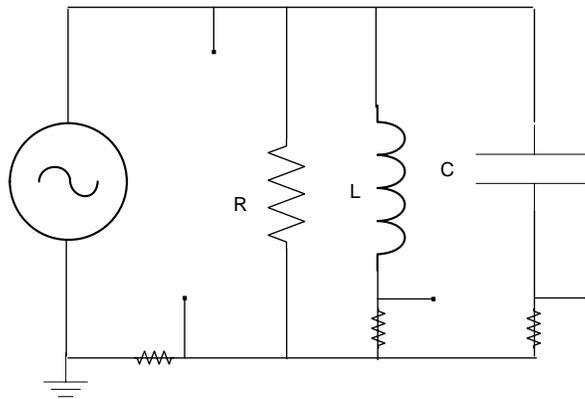

Fig. 3. The experimental parallel RLC circuit.  $R= 100 \Omega$ ,  $L= 100 \text{ mH}$ ,  $C= 10 \mu\text{F}$ .
5. Construct the circuit of Figure 3. Maintain the settings of the source. Measure the magnitude of the supply voltage. Measure the magnitude and phase (with respect to the supply voltage) of the inductor current, the capacitor current and the supply current.